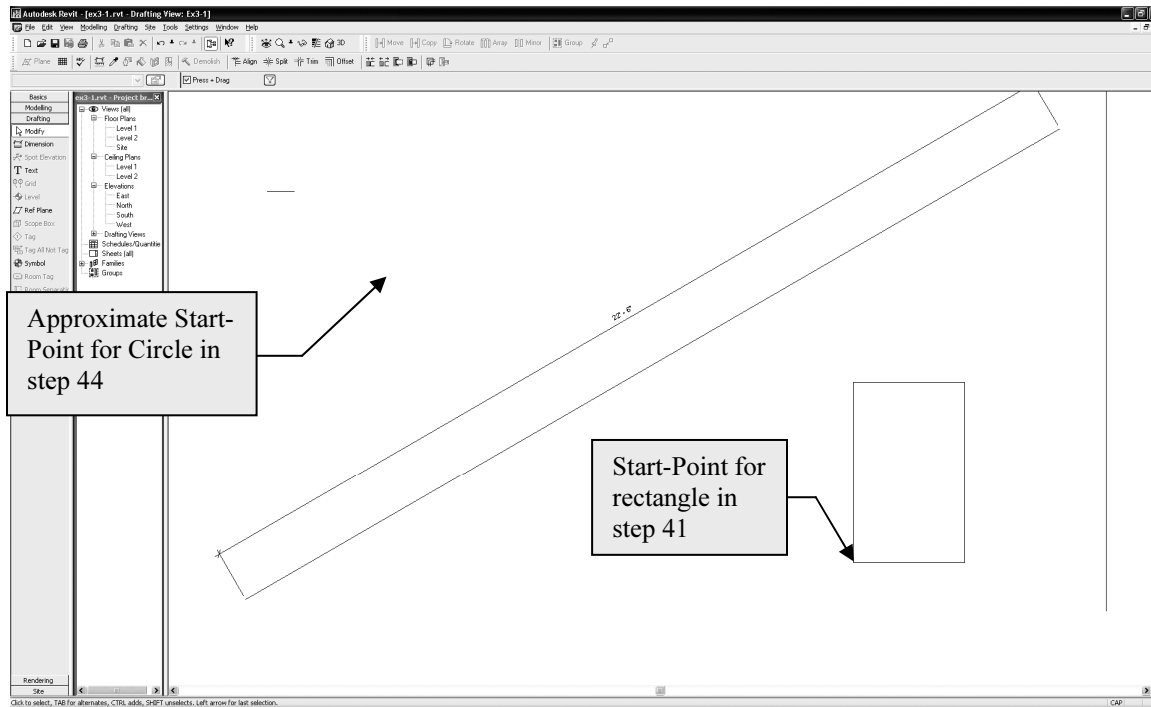

Figure 3-1.15 Drawing with Rectangle added
43. Pick the “**first corner point**” somewhere near the middle-bottom of the *Drawing Window* (Figure 3-1.15).
46. You are now prompted to pick the center point for the circle: pick a point approximately as shown in Figure 3-1.15